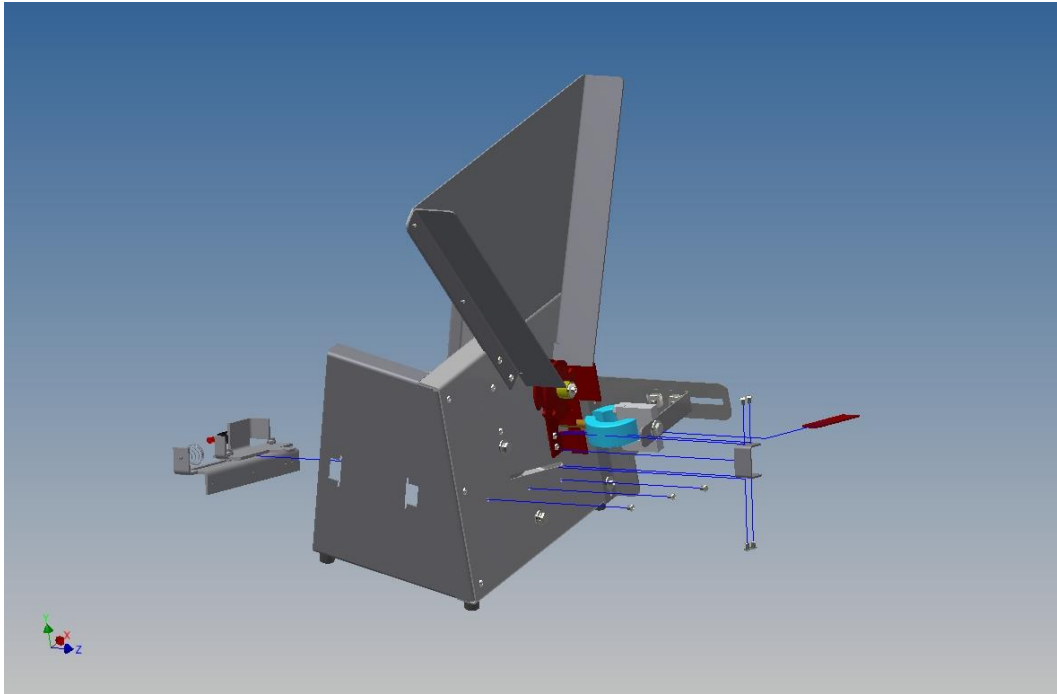

Figure 3 - Front view showing rear mounting of new trolley and front mounting of new C shaped riser and trolley plate.
5. Replace the C shaped riser on the trolley tab projecting through the face plate of the machine and add the new red fiberglass sheet trolley plate. Check operation for touching or scraping of the trolley plate as it is moving through the slots in the guide chute parts. If it is touching, retract the trolley to the far left end and gently bend the C shape and trolley plate up or down to remove the interference and check again, repeating as necessary. See figure 3 below.